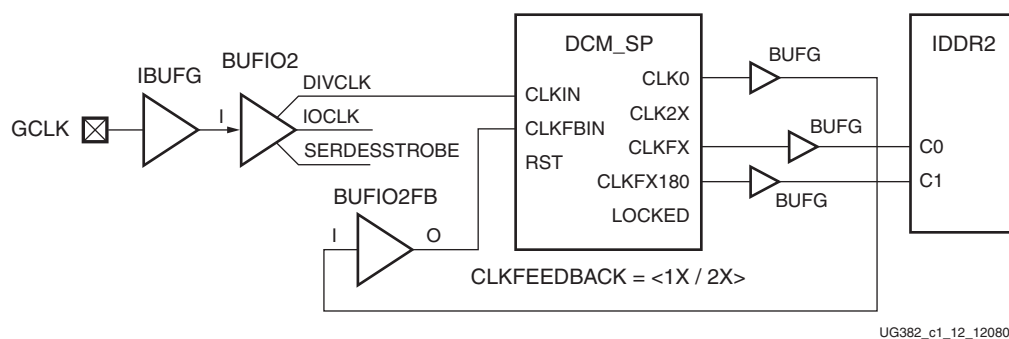

Figure 1-18: Example 5: DCM Deskewed to the Inputs
- For the highest performance, use two DCM outputs with separate BUFPGs with 180° phase difference. Works with or without IODELAY2. See Figure 1-18.
In designs where DCM_SP performance is adequate, DCM_SP can be used to drive IOLOGIC (IDDR2) using up to three BUFG clock buffers. To match the input routing delays, either CLK0 or CLK2X must be used to drive the BUFIO2FB as shown in Figure 1-18.